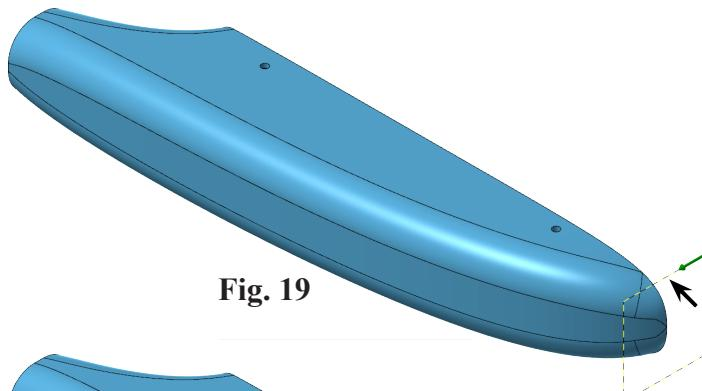

Fig. 19
Step 3. Click rectangle to chain, Fig 19.